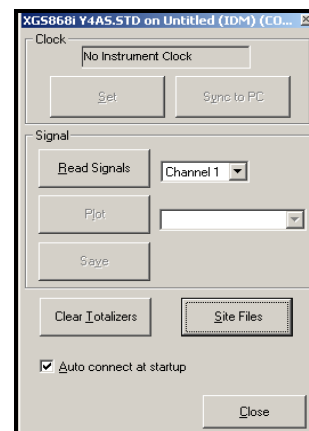

Figure 5-4: The *Properties* Window
3. The *Properties* window appears similar to Figure 5-4 below. To clear the XGS868i totalizers, click on the [Clear Totalizers] button. The XGS868i totalizers are reset to 0.